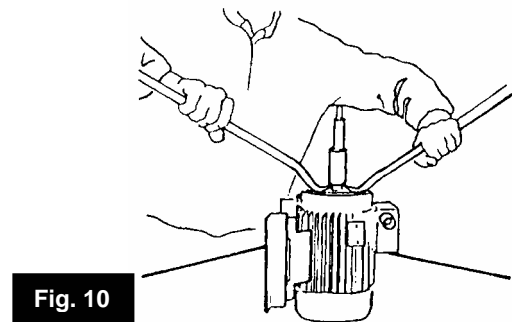

Fig. 10
- 14) In order to remove both front and rear ball bearings (pos. 10), use an extractor (**only series CGD**). For the **CDM pumps series**, the removal of the shaft must be executed in completely various way. Unscrew the screws (pos.14) that fix the shaft-pump (pos.9) at the shaft-motor. Successively, with an extractor, or more simply with two levers, unthread the shaft- pump from the shaft-motor **fig.10**.